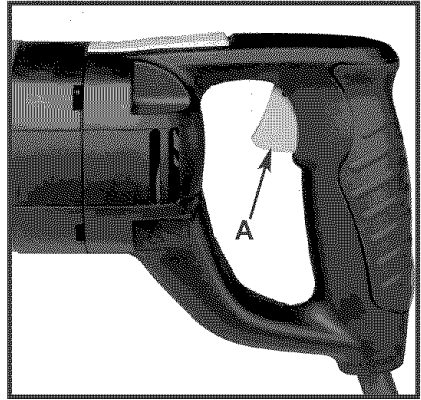

Fig. 15
2. Hold saw firmly (see **Fig. 13A** or **Fig.13B**). Squeeze trigger switch (A) **Fig. 15**, to start motor. Release trigger to stop motor.
The saw is equipped with a variable speed control switch (A) **Fig. 15** (0 to 2900 SPM). As the switch trigger is squeezed, the speed of the saw blade increases.